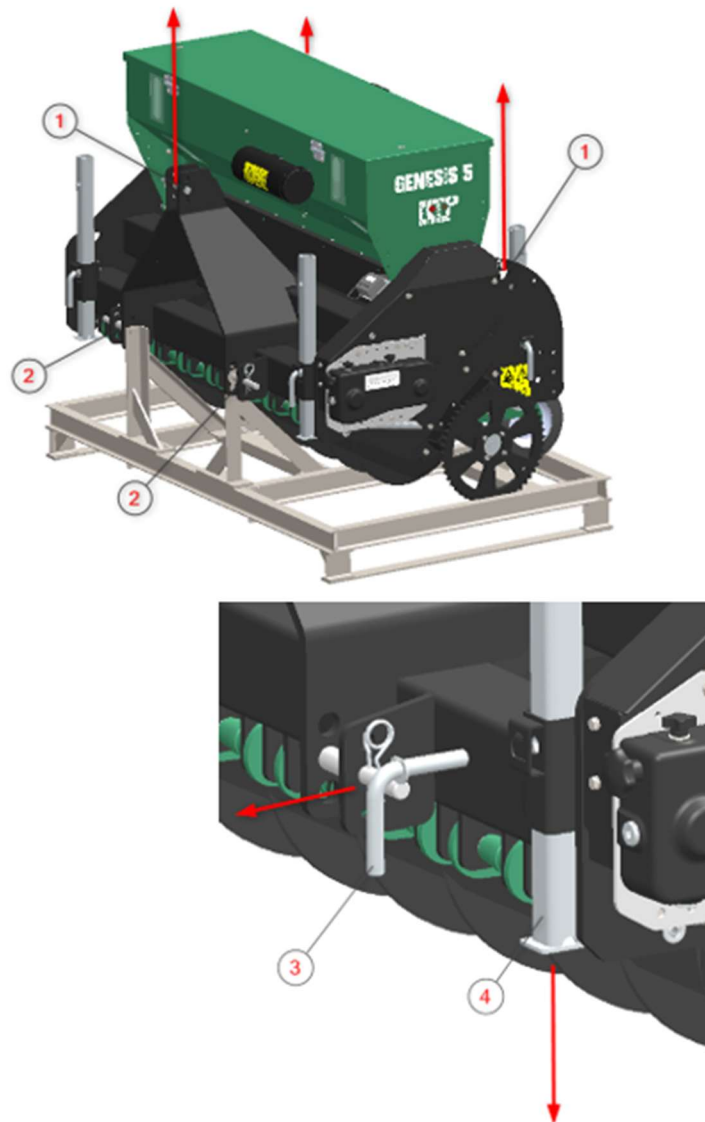

Fig. 2
The machine should be prepared for use as follows: (Fig.2)
7. Slide the support legs (4) upwards and secure them. (Fig.2)
2. Lower the support legs (4) and secure them with the locking pins.(Fig.2)